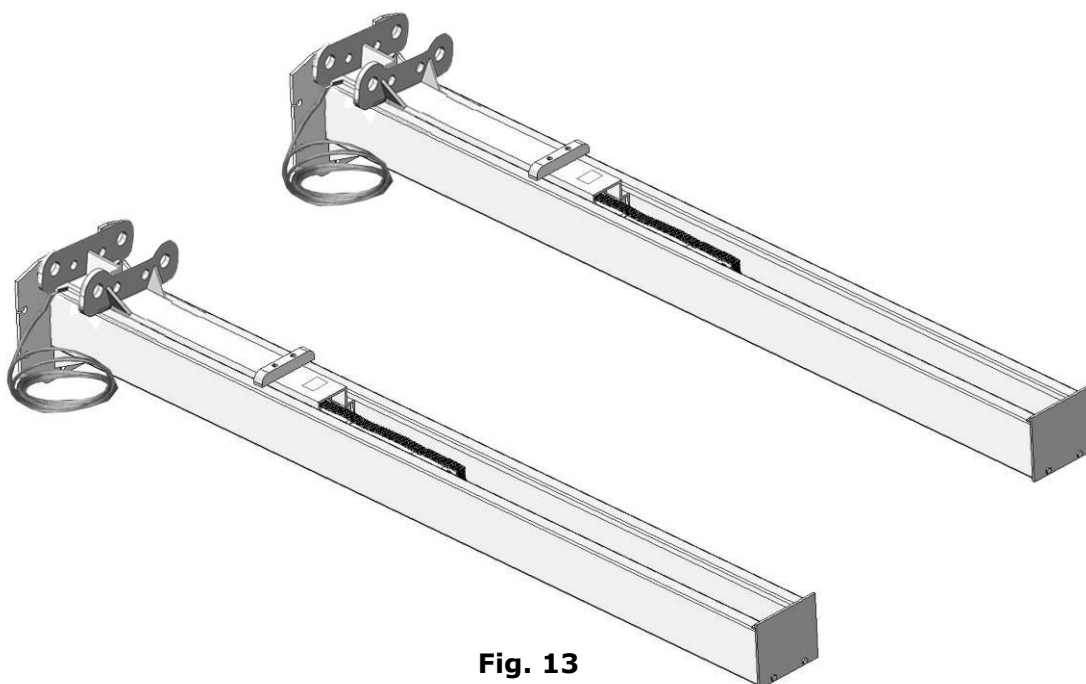

Fig. 13
2. Push the carriages to the bottom of the columns (**See Fig. 13**).